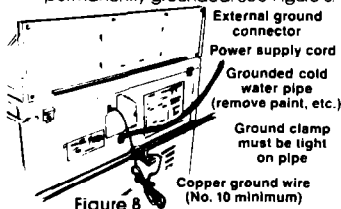

Figure 8
4. Connect a separate copper ground wire (No. 10 minimum) to a grounded cold water pipe* by means of a clamp and then to the frame of the appliance at the external ground connector. Use Part No. 685463 ground wire and clamp assembly. Do not ground to a gas supply pipe. Do not connect the power supply cord to electric power supply until appliance is permanently grounded. See Figure 8.